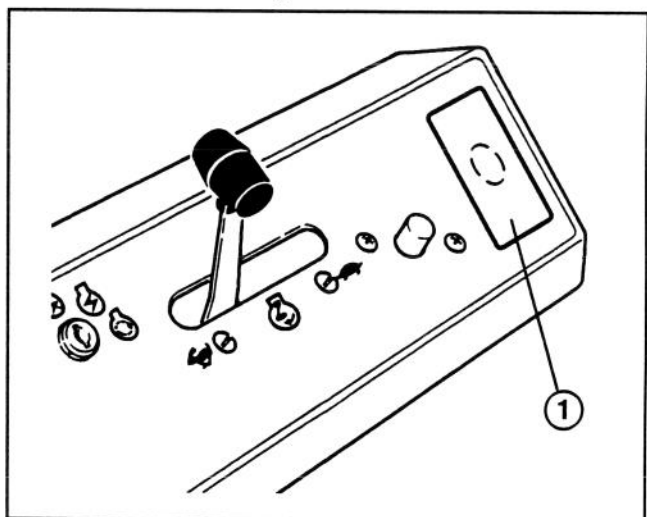

Figure 6
24. Install (3) new glow plugs, included in kit, to engine. Torque glow plugs to 11-14 ft-lb. Reconnect wires to glow plugs.
26. Affix starting instruction decal to instrument panel at location shown in figure 6.